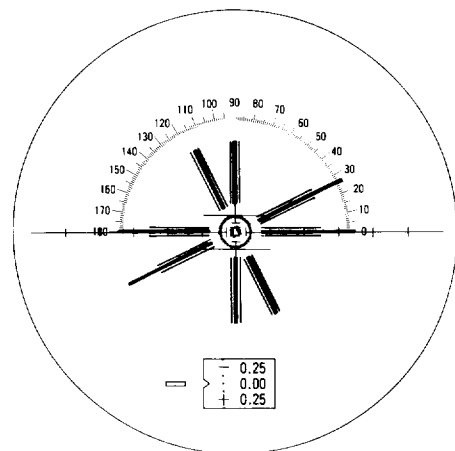

Fig. 5-2
- (2) Turn the diopter measuring handle to obtain the sharpest target.
- (3) Check the target position.
- (3-1) There is no problem if the target is in the center of view field as shown in Fig. 5-2.